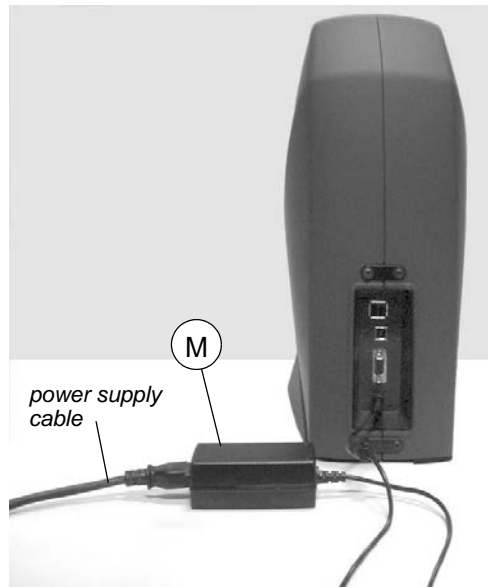

Fig. 9
Connect OPTIKA to the power supply unit (M) and connect to the power source by means of the power supply cable (fig. 9).